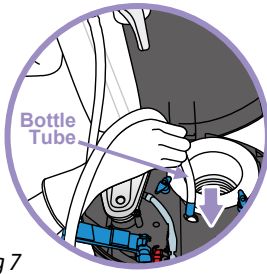

Fig 7
- Wearing gloves, feed the new bottle tube through the hole indicated (Fig 7).